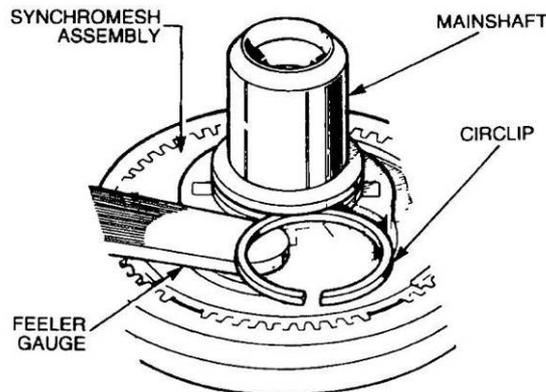

Figure 181 Adjustment of the Mainshaft End-play
- i. Position the mainshaft vertically with the front end uppermost and apply a light load on the gears to remove any end-play. Insert the circlip into the mainshaft groove and measure the distance between the circlip lower edge and the third and fourth synchronesh inner member (Figure 181). Install a suitable shim to obtain a clearance of between 0.025 to 0.150 mm (0.001 to 0.006 in.) and install the circlip.